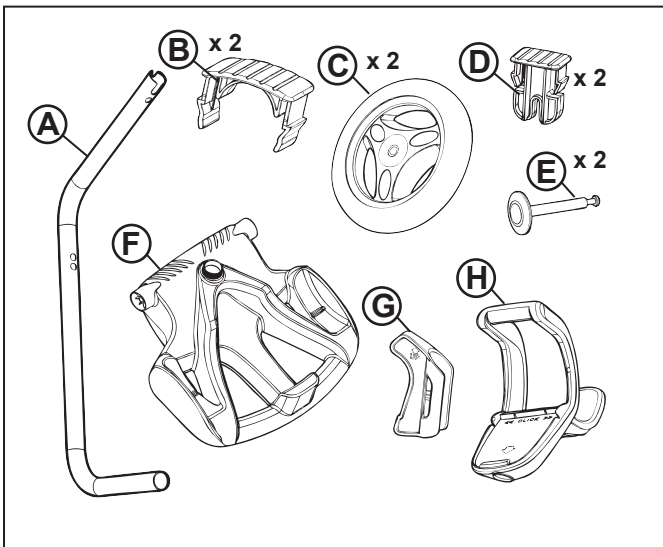

Figure 1. Transport Caddy Assembly Components
- Transport and storage caddy components (see Figure 1)